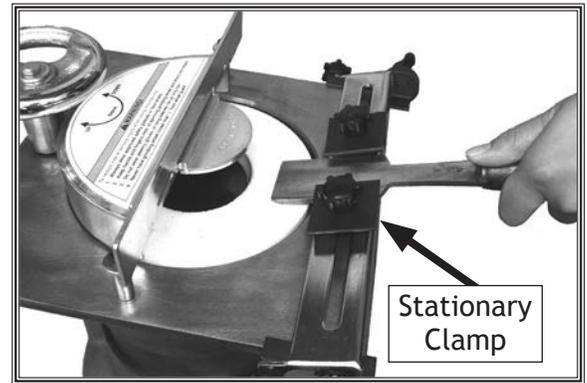

Figure 9. Stationary clamps holding a narrow tool.
The stationary clamps mounted on the pivot support hold tools with narrow cutting widths, such as chisels, that have a beveled edge which can be squarely aligned with the flat of the wheel, as shown in **Figure 9**.
3. Center tool on pivot support between clamps, slide them together to firmly hold tool, then tighten their knobs to secure them in place, as shown in **Figure 9**.
5. Adjust angle of pivot support and its position on table and in clamps so tool bevel just makes contact with wheel, as shown in **Figure 9**, then make sure stationary clamps and four pivot support lock knobs are tight.